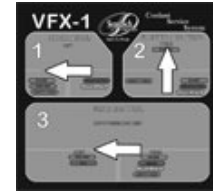

Figure 2
- 5) Turn AIR CONTROL valve (#1) and FLUID CONTROL valve (#3) to the left, TOP OFF (**GREEN**). (Fig 2)